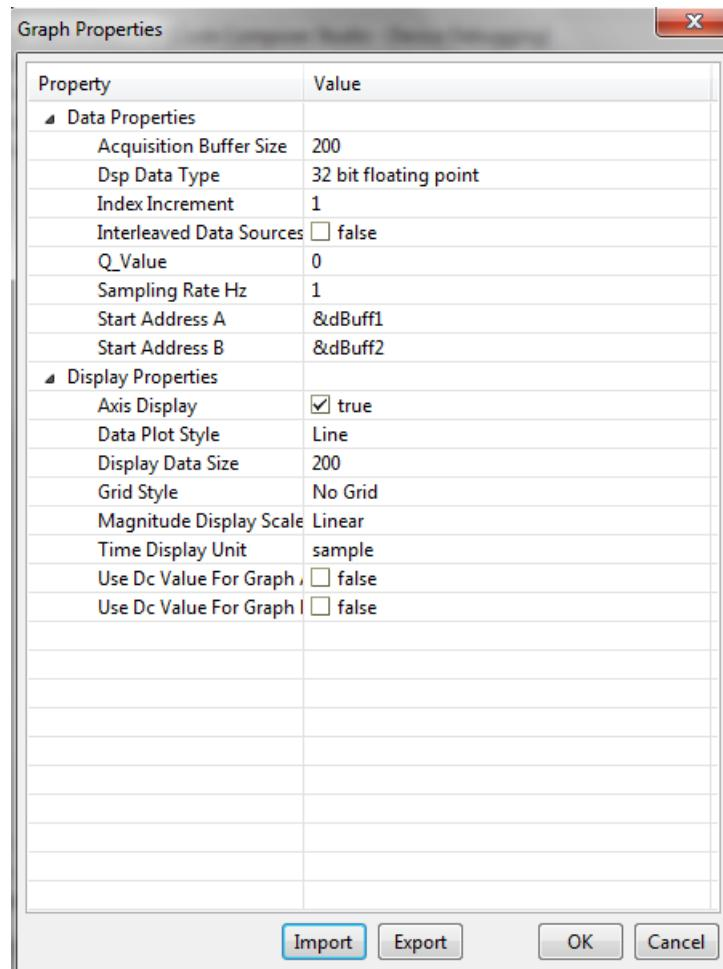
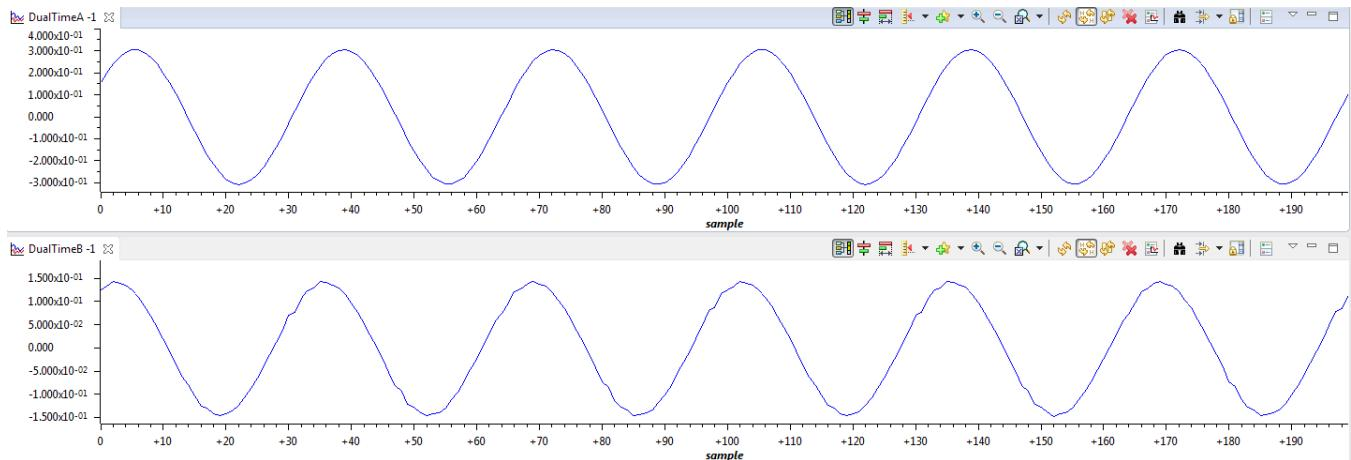

Figure 23. Graph Settings
Figure 25. Build Level 1 Graph.1.GraphProp File Showing Measured Per-Unit Voltage and Current Values
8. Alternatively, the user can enter the values as shown in Figure 23.
Figure 25 shows the graph window inside CCS that was set up previously (see Figure 23). The measured voltage and current AC waveform can be observed on these graphs.
Figure 25 shows the graph imported in the build level 1 through the graph1.graphprop file, displaying the measured per-unit voltage and current values.